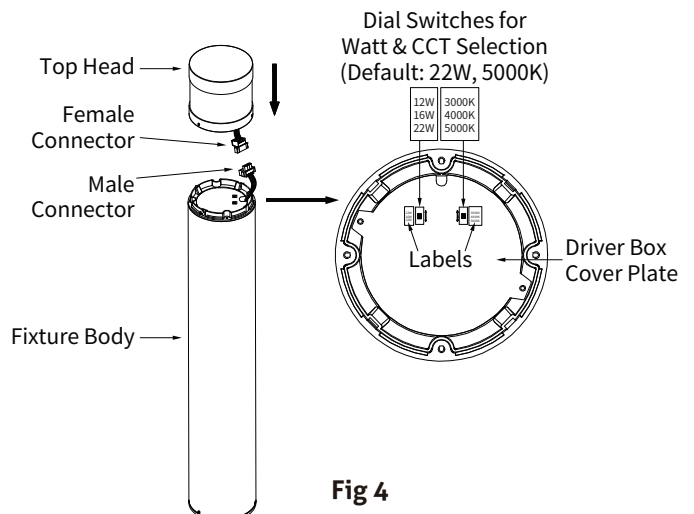

Fig 4
5. Select desired wattage & CCT, through the dial switches on the driver box cover plate. **Fig. 4**